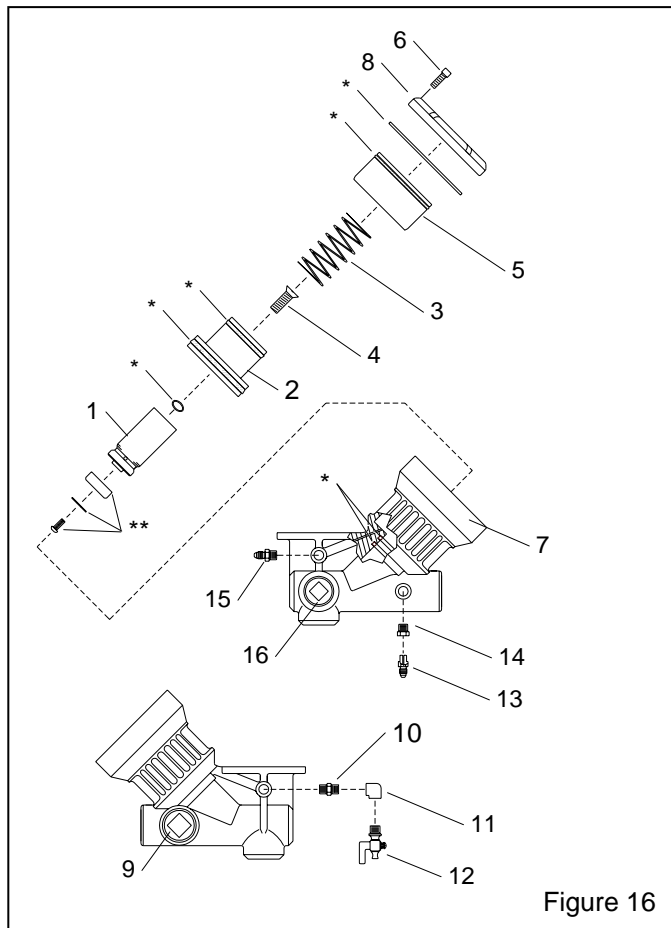

Figure 16
8.6 Millennium Valve, Inlet Segment, Figure 16